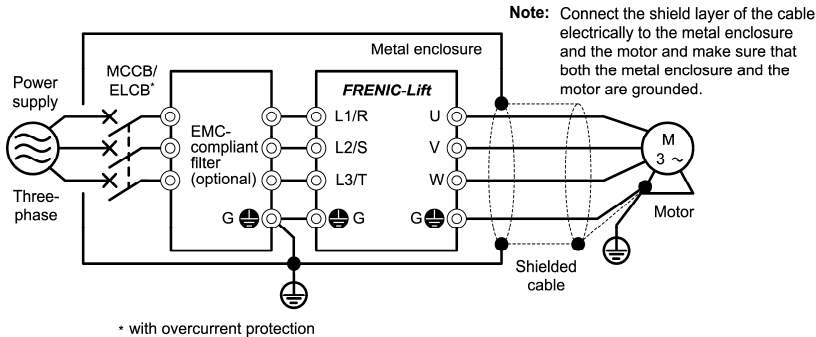

Figure 1.3 Installation of EMC-Compliant Filter (Option)
- 3) If noise radiated from the inverter exceeds the level prescribed in the EMC Directive, enclose the inverter and its peripherals (EMC-compliant filter) inside a metal enclosure as shown in Figure 1.3.